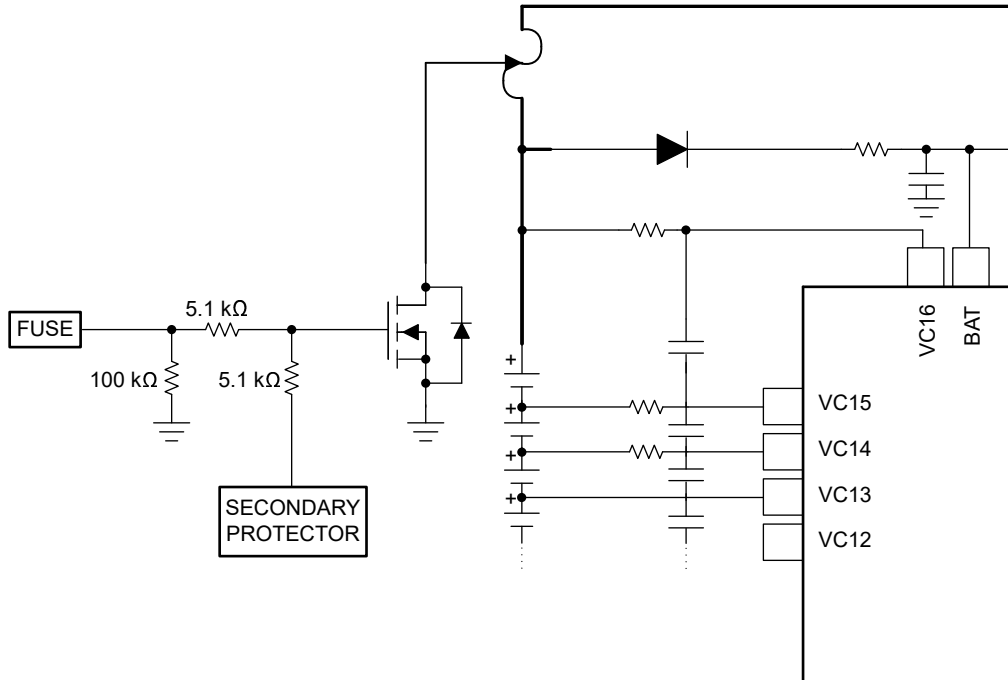

図 7-6. FUSE Pin Operation
The FUSE pin on the BQ76972 device can be used to blow a chemical fuse in the presence of a Permanent Fail (PF), as well as to determine if an external secondary protector in the system has detected a fault and is attempting to blow the fuse itself. The pin can drive the gate of an NFET, which can be combined with the drive from an external secondary protector, as shown in Figure 7-6. When the FUSE pin is not asserted by the BQ76972 device, it remains in a high-impedance state and detects a voltage applied at the pin by a secondary protector. The device can be configured to generate a PF if it detects a high signal at the FUSE pin.